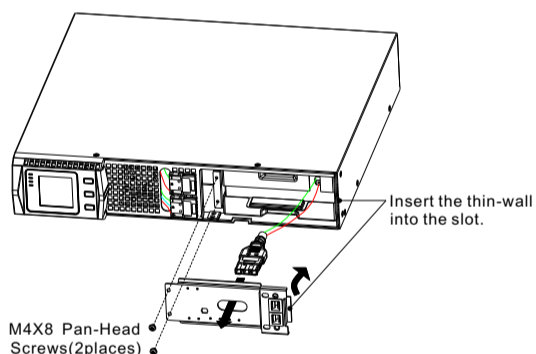

Fig.4 Installation for battery pack baffle (UPS)
3. Remove the connection cables between battery box and UPS. Release the screw of the baffle of the battery pack as the Fig4 shows, then remove the baffle from the left.
4. Grasp the handle in front of the battery pack, take out of it and hold it, then remove the battery pack. (see Fig.4)